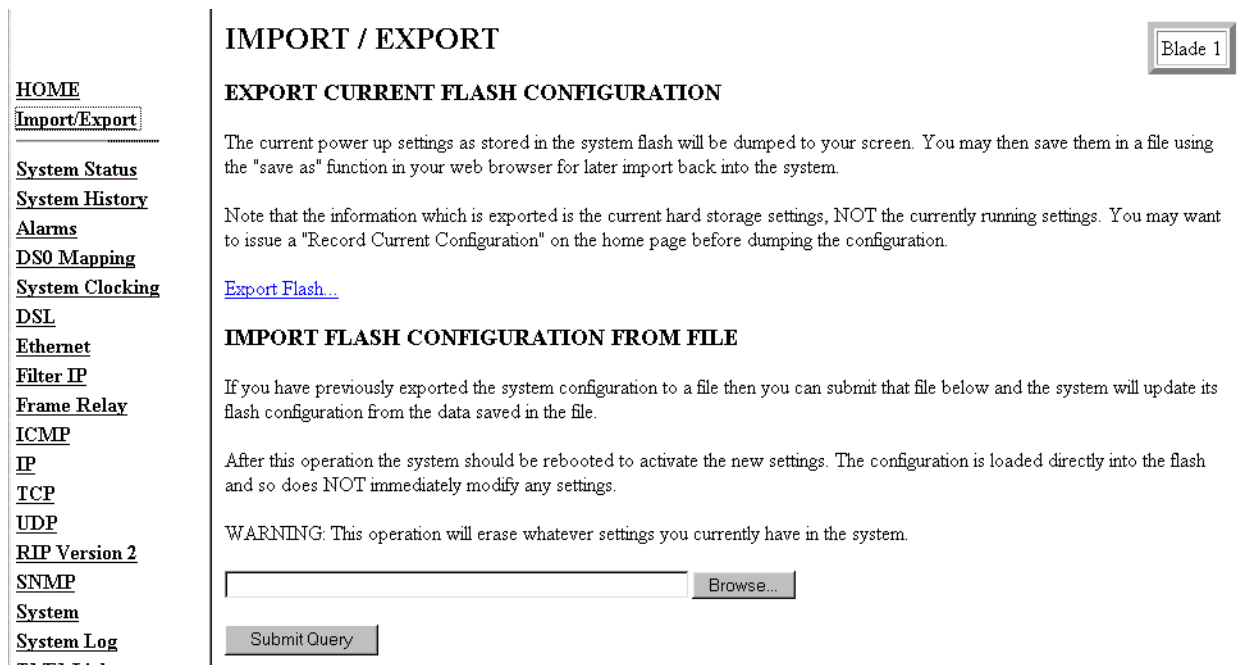

Figure 49. IMPORT/EXPORT page
1. On the Configuration Menu pane, click the *Import/Export* hyperlink to display the **IMPORT/EXPORT** page (see figure 49).